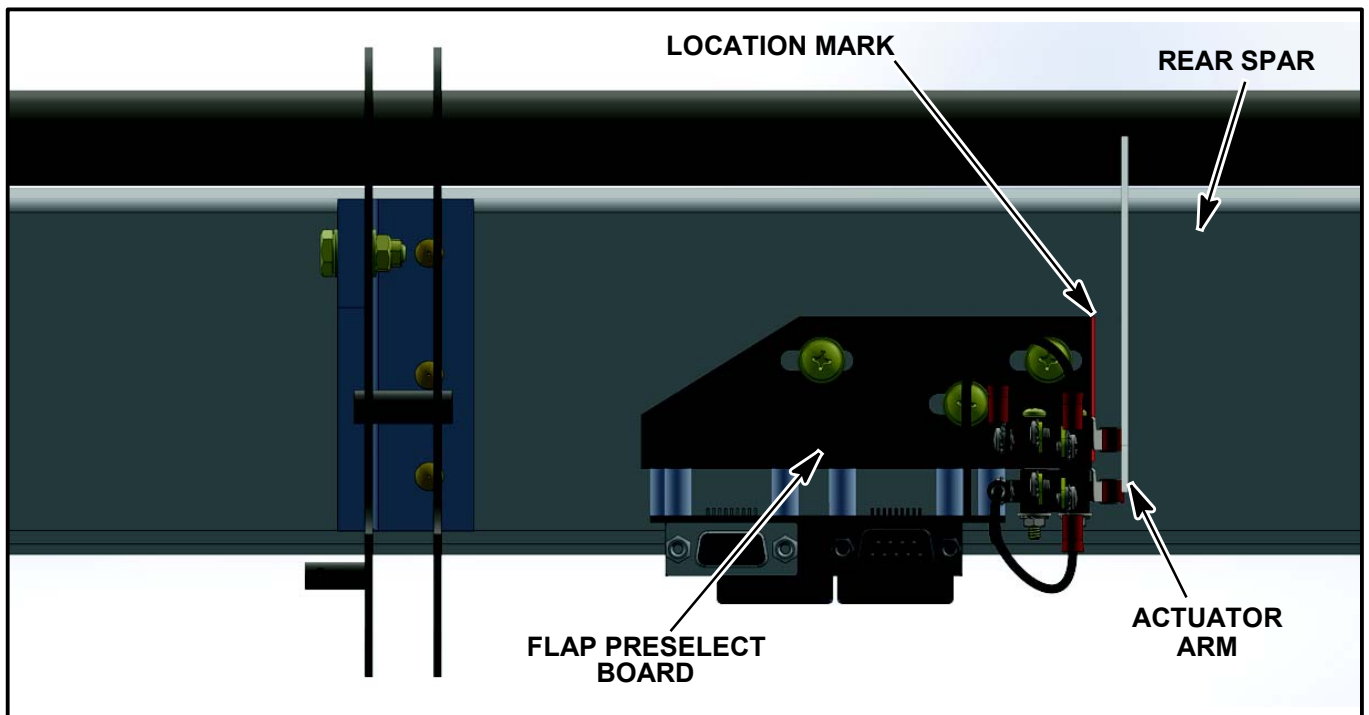

Figure SIM20-142-17- POSITION FLAP PRESELECT BOARD
- 1.18. Match the right edge of flap preselect board with the mark on the spar from Step 1.5 and tighten hardware in place. (Refer to Figure SIM20-142-17.)